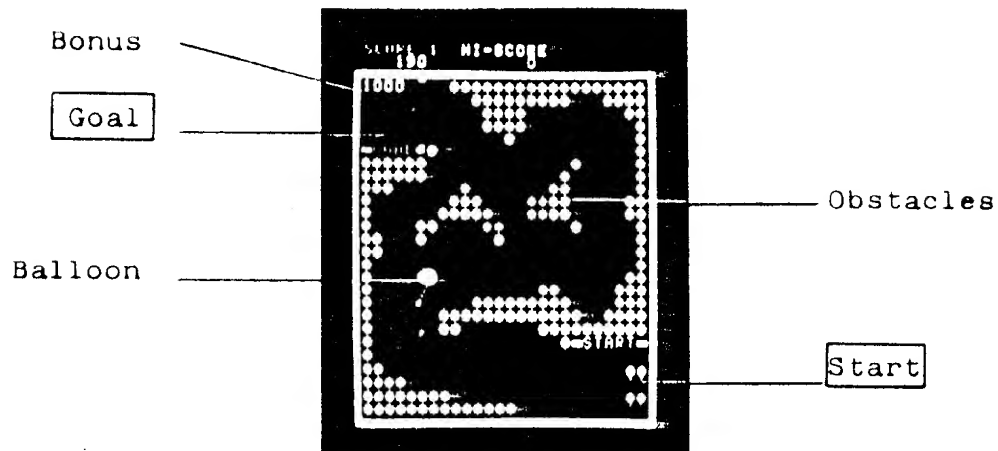

Fig. 3
- (1) Do not attempt to service with ordinary testing equipment, since the internal voltage of the testing equipment may cause damage to the circuitry.
- (2) Never connect or disconnect any of the solid-state modules while the power is on.
- o After the game-start music is heard, play begins with the picture shown in Fig. 3.